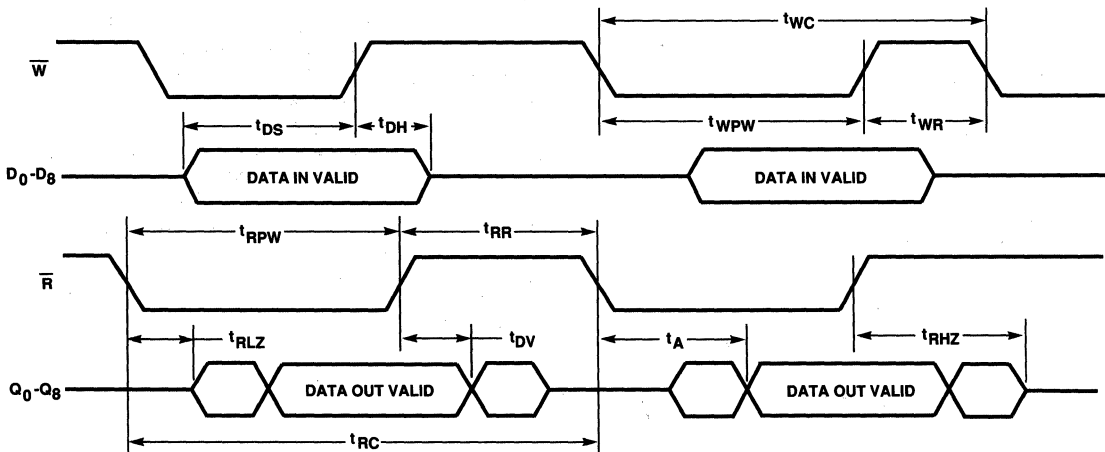

Figure 3. Asynchronous Write and Read Timing
The HIGH state of the Full Flag (\overline{FF}) indicates that the FIFO is capable of accepting data. The falling edge of Write (W) initiates a write cycle. (See Figure 3.) Data appearing at inputs D0-D8 t_{DS} prior to and t_{DH} after the rising edge of W will be stored sequentially in the FIFO.
The HIGH state of the Empty Flag (\overline{EF}) indicates that the FIFO is ready to output data. The falling edge of Read (R) initiates a read cycle. (See Figure 3.) Valid data appears on the outputs Q0-Q8 t_{x} after the falling edge of R, and remains until t_{DV} after the rising edge of R. Q0-Q8 return to a high-impedance state when a valid read is not in progress.